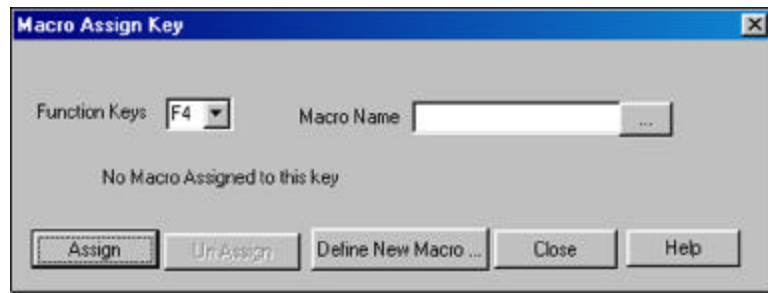

Figure 117 Macro Assign Key Dialog
1. Click "Macros" on the main menu bar, select "Define" to open the Macro Assign Key dialog box shown in Figure 117.